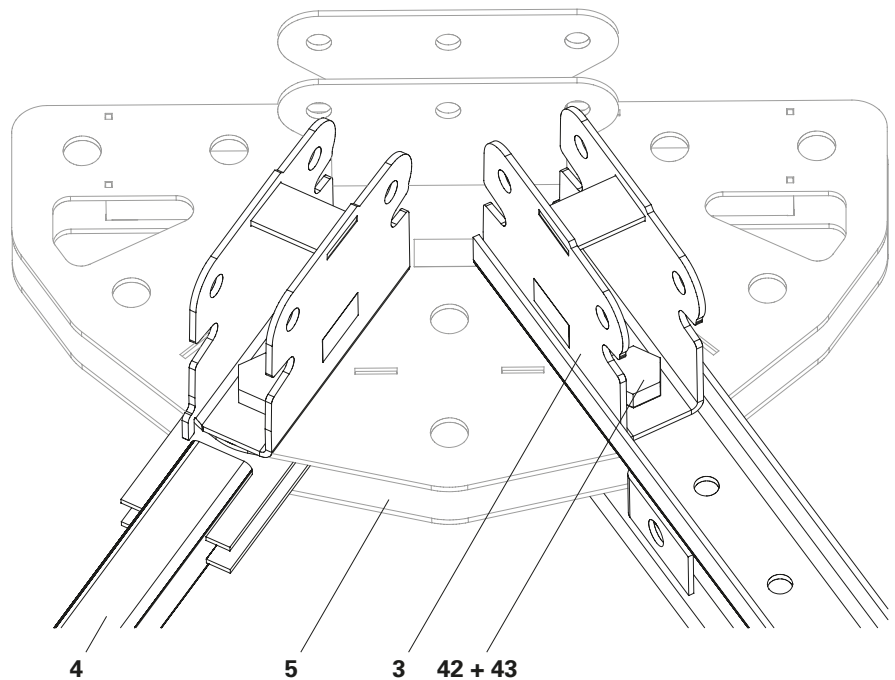

Fig. A4.16
2. Insert Bolt ISO 4017 M30 x 100 (42) through the Chord Node ATG (5), Bracing Connector ATG (3) and Steel Waler (25) or Chord Node ATG (5), Bracing Connector ATG (3) and the Truss Diagonal (4).
3. Secure Bolt ISO 4017 M30 x 100 (42) with Hex. Nut ISO 4032 M30 (43). (Fig. A4.16)